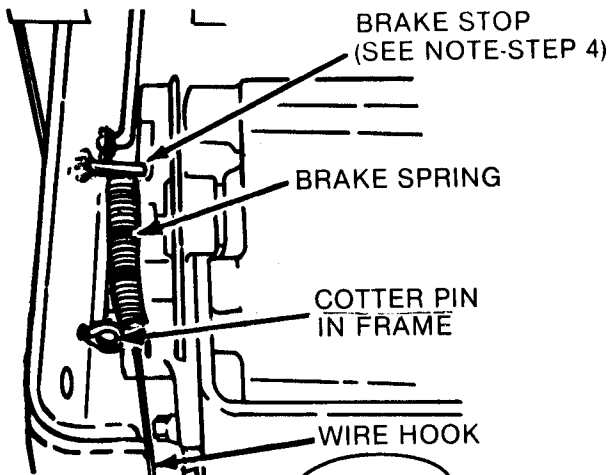
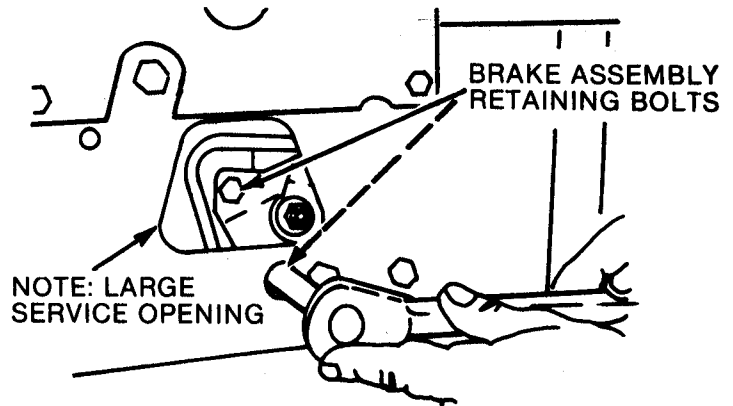

FIG. 3.1--BRAKE SPRING & STOP DETAIL
FIG. 3.2--BRAKE ASSEMBLY REMOVAL
2. Disconnect the brake spring from the cotter pin in tractor frame (Figure 3.1).
3. Remove the two bolts that hold the brake assembly to the transmission (Figure 3.2).
NOTE: If the brake disc has to be replaced, it will be necessary to saw 3/8" off the end of the brake stop stud which is welded to the frame directly behind the brake actuating arm as shown in figure 3.1. The brake assembly also has to be removed. This requires the large access hole shown in figure 3.2.
8. Reconnect the brake spring to the cotter pin in tractor frame (Figure 3.1).